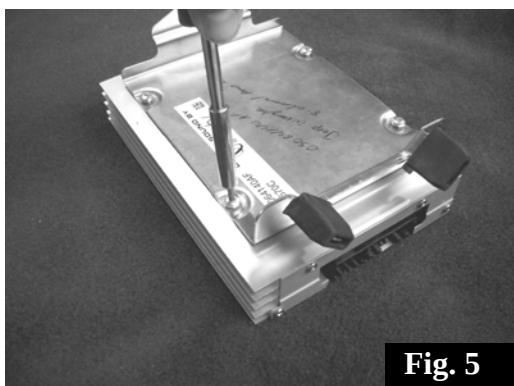

Fig. 5
7. Remove the four screws securing the amplifier to the bracket. Install the upgrade amplifier to the bracket using the original screws. Fig. 5